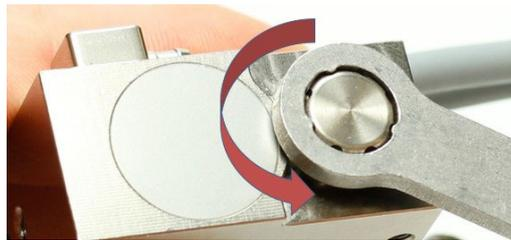

Fig. 38: Screw open adjust screw
- Screw open the adjust screw completely (see Fig. 38; torque for screwing it open approx. 50 – 60 cN.m).